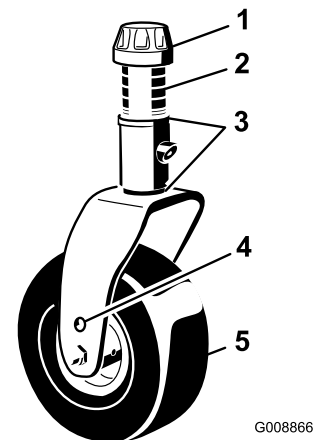

Figure 84
1. Remove the tensioning cap from the spindle shaft and slide the spindle out of the caster arm (Figure 84).